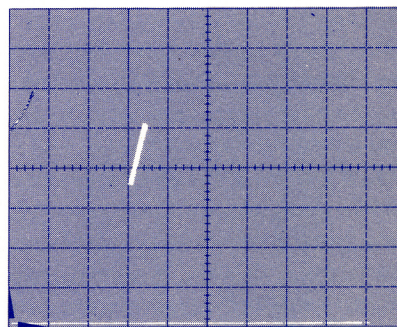

Figure 1-1. Display of emitter saturation voltage $V_{EB1}(\text{SAT})$ with instrument in storage mode.
- 3) Apply power to device — Position LEFT-RIGHT switch on 177 to appropriate side. Increase VARIABLE COLLECTOR % supply past point at which trace switches from almost horizontal (off screen) to more vertical (on screen). Continue until specified emitter current is reached on vertical. [5 divs, or 50 mA]. See Figure 1-1. 34 8